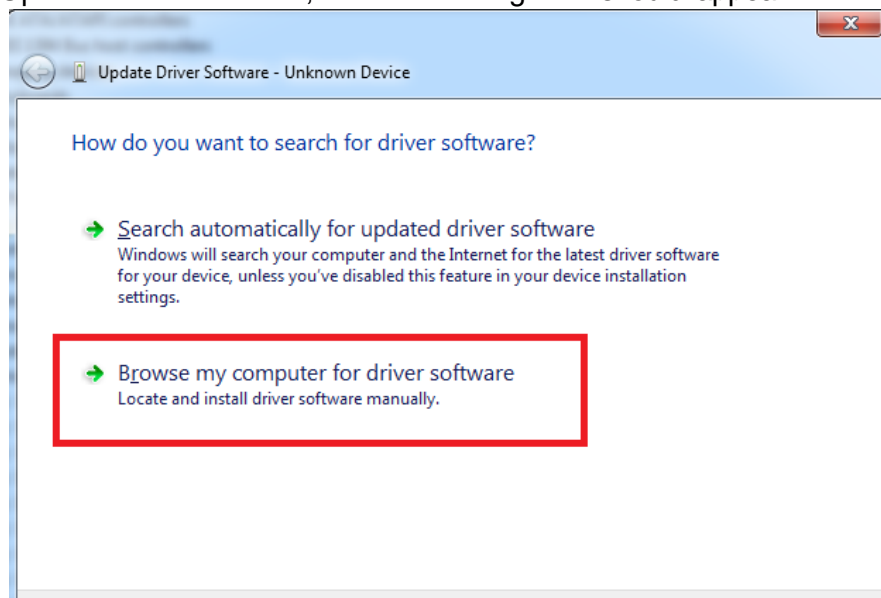

Fig. 7.2. Device driver software update message
- Press “Update driver software”; screen as in Fig. 7.2. should appear: